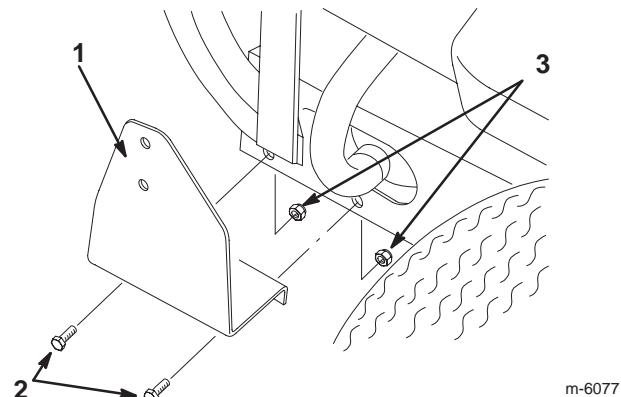

Figure 2
3. Attach the bagger support bracket to the holes on the bottom of the machine frame using 2 bolts (5/16 x 1 in.) and locknuts (5/16 in.) (Fig. 2).